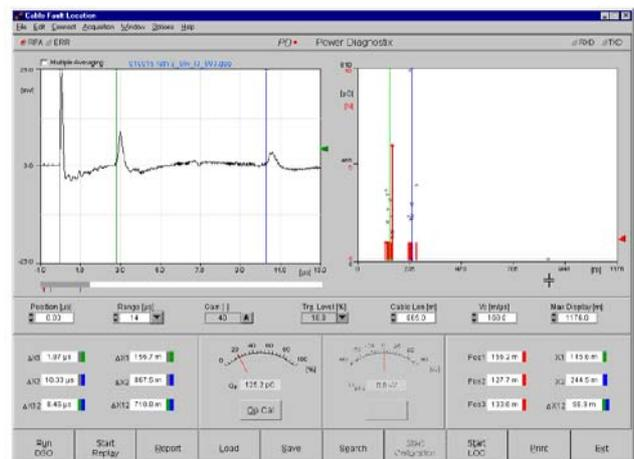
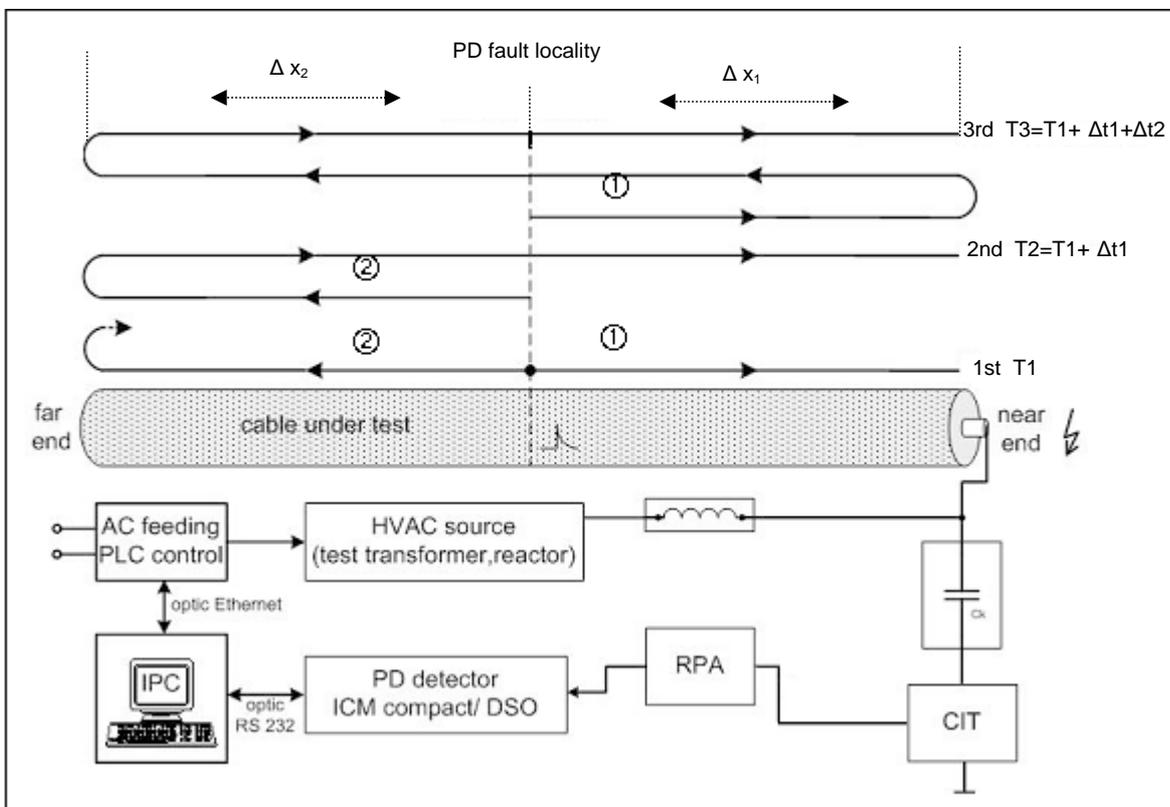
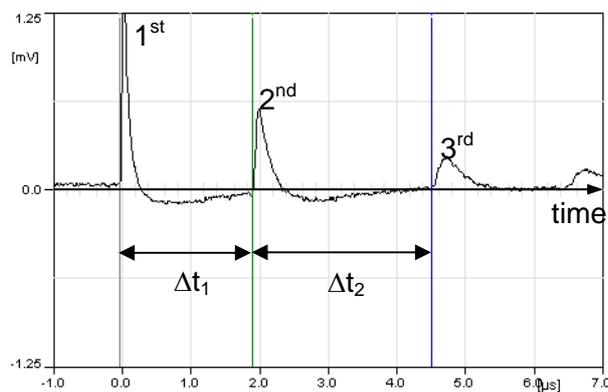

Fig. 1: Monitor for PD fault location and PD mapping
Fig. 2: Measuring circuit and propagation of a PD pulse (CK coupling capacitor; CIT-measuring impedance; RPA-preamplifier)
Fig. 3: Time domain measurement of the PD propagation in Fig. 2 ( $T_1 = 0$ )
In **diagnostic off-line tests**, PD failures must be expected in the whole cable system. For this application, PD location is extended to **PD mapping**. This means the measured apparent charges are displayed over the PD fault locality (Fig.1). The PD map identifies most critical PD faults for repair.
PD location is an application of time domain reflectometry (TDR). Long high-voltage cables behave as a wave conductor. Therefore, a PD pulse travels to both cable ends. If these do not have the characteristic impedance of the cable (open ends), the PD pulse will be reflected back to the opposite end. Fig. 2 shows a cable with a PD fault. The travelling way of the two pulses and their reflections is shown on top of Fig. 2. PD pulses are registered by the PD measuring system at the times  $T_1$ ,  $T_2$ ,  $T_3$ , etc. The distance from the PD fault (pulse source) to the end of the cable is calculated from the time difference ( $\Delta t_m$ ) of two pulses measured at the near end (coupling unit).
Fig. 3 shows the time diagram of the three pulses entering the coupling unit. The 1st pulse travels the
For PD location the PD detector, type *ICMcompact / F* is equipped with an acquisition board for PD fault location, type DSO. The PD signals in the time domain (Fig. 3) are recorded with a resolution of 10 ns and a maximum total display of 80  $\mu\text{s}$ . Since the display of that PD detector is limited to 200 pixel, the data display is compressed. To take the full advantage of the high resolution, the PD detector can be connected via an optic RS 232 interface to a separate computer, preferably the control computer (IPC) of the HV test system (Fig. 2). Then, a much better display is reached by the help of the software *ICMcompro* (Fig. 1).
For PD fault location the cable under test is connected to the HV circuit (Fig. 2) as usual for PD measurement (see Catalog Sheet 6.21). The cable conductor is connected via the coupling capacitor (CK) to the measuring impedance, type *CIT* (see Data Sheet 6.31). From here, the signal is wide-band amplified by the preamplifier, type *RPA 1H*, for laboratory or factory testing, respectively type *RPA 1L* for testing on site (see Data Sheet 6.32). Via the measuring cable the signal is transferred to the PD detector, type *ICMcompact / F* and processed there in the described way.